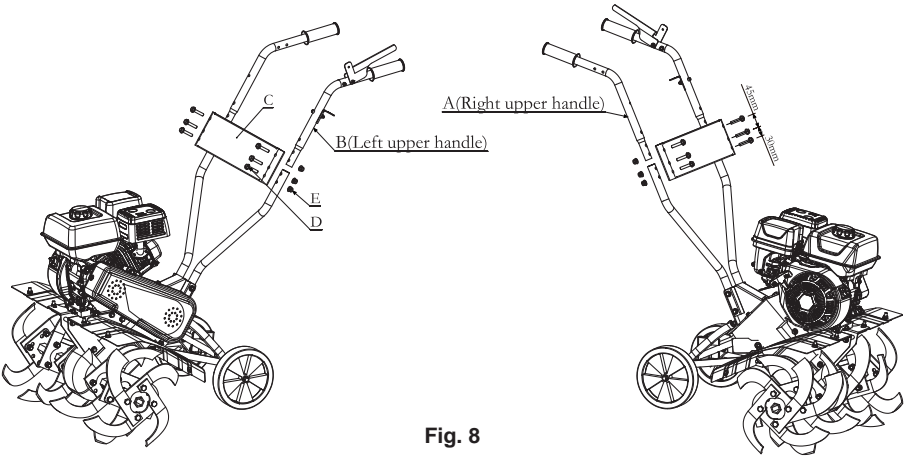

Fig. 8
Step 8 Assembly of the handle and fixing plate (See Figure 8)